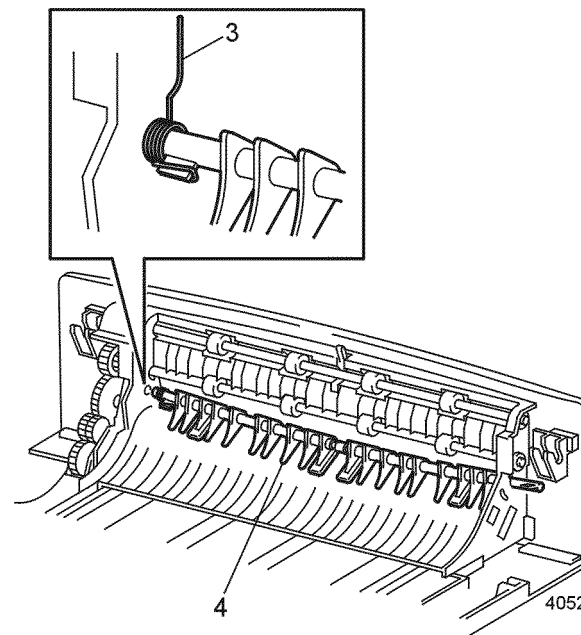

Figure 2 Exit Gate Spring
3. Note the position of the gate spring. Unhook the gate spring (Figure 2).
4. Carefully bend the Exit Gate in the middle until the left end is free of the Rear Cover (Figure 2).